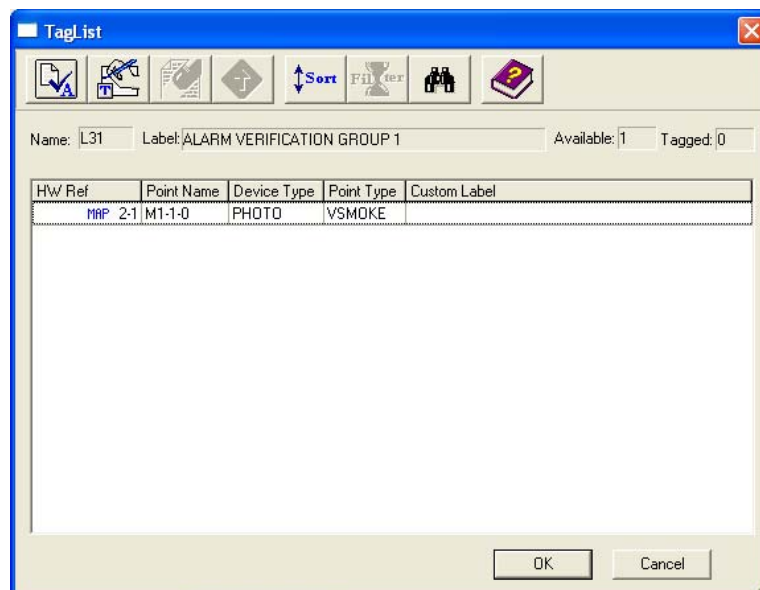

Figure 9-10. Sample Tag List for Alarm Verification Group
- Click on the Alarm Verification group into which you want to move points. Right click and select **Tag List**. A screen similar to the one shown in Figure 9-10 appears.